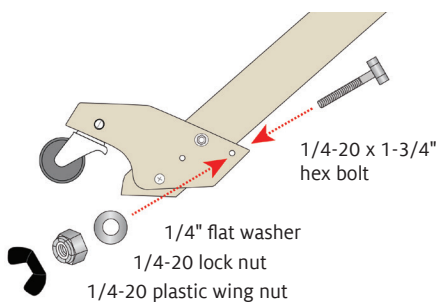

FIGURE 17: ATTACH HEX BOLT ON FRONT STROLLER BLOCK
21. The empty hole of the stroller block (closest to the back of the loom) attaches the stroller bar when the loom is folded. From the inner side of the block, insert a 1/4-20 x 1-3/4" hex bolt through this hole, as shown in Figure 17. On the outer side of the block, add a 1/4" flat washer and a 1/4-20 lock nut to the bolt shaft. Tighten the lock nut securely. Add a 1/4-20 plastic wing nut to the shaft—this wing nut will hold the stroller bar in place when you fold the loom.